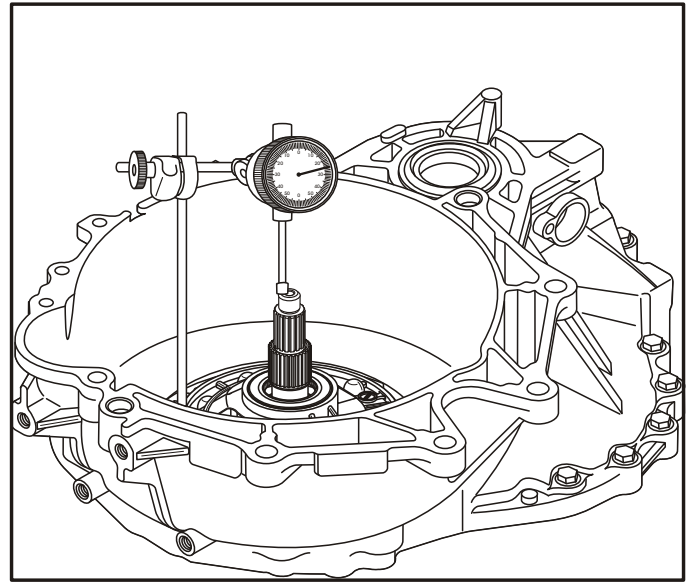

Figure 24
11. As a diagnostic aid, install dial indicator, as shown in Figure 24, measure and record the input shaft end play.